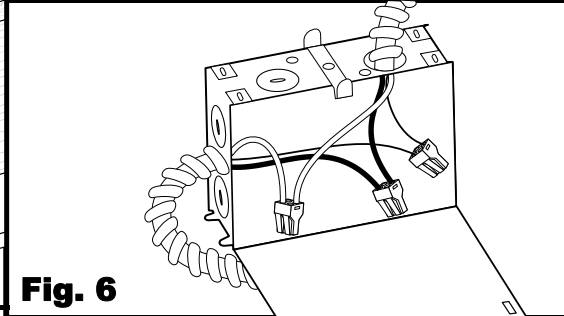

Fig. 6
6. Remove a knockout to bring the supply wires into the wire box. Connect the black supply wire to the black frame wire using a wire connector. Connect the white supply wire to the white frame wire using a wire connector. Connect the ground supply wire to the ground frame wire using a wire connector. [Fig. 6]
5. Remove a knockout to bring the supply wires into the wire box. Connect the black supply wire to the black frame wire using a wire connector. Connect the white supply wire to the white frame wire using a wire connector. Connect the ground supply wire to the ground frame wire using a wire connector. [Fig. 6]